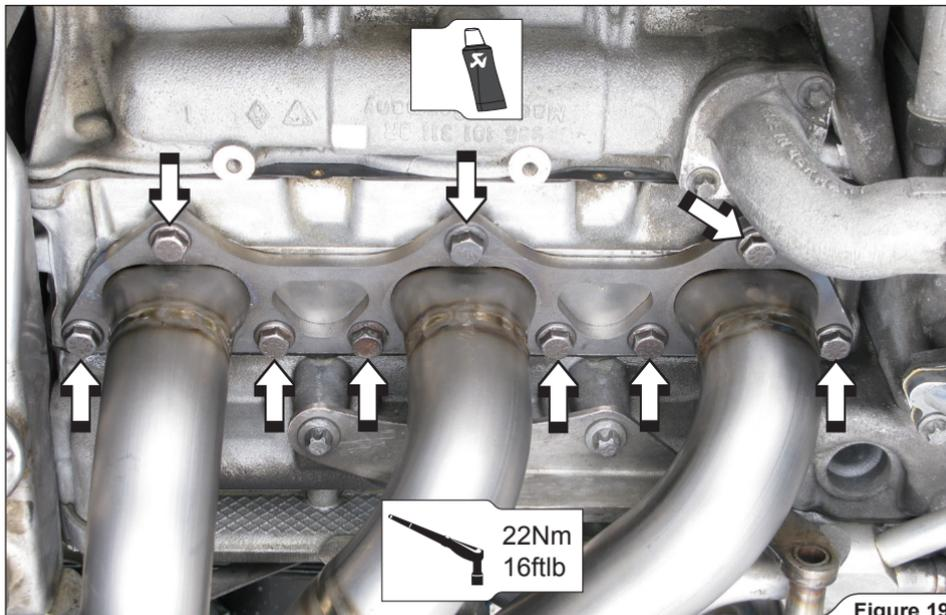

Figure 19
1. **For Evolution and Evolution-Race:** set the Akrapović headers with stock gaskets and tighten the stock bolts to a specified torque using criss-cross pattern in three steps (**Figure 19**).